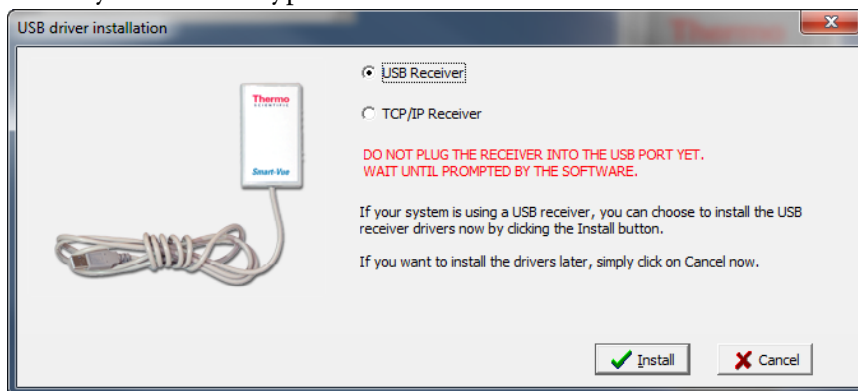

Figure 3. Select your receiver type
1. Click on **USB receiver** (Figure 3), and then click on **Install → Next → Finish** when done. The USB drivers are installed.